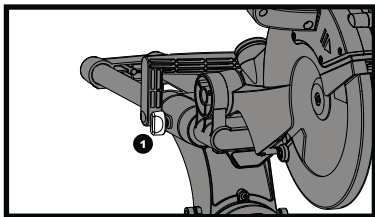

Fig 4
After removing the saw from the carton, loosen the slide carriage lock knob (1). When transporting or storing the mitre saw, the slide carriage should always be locked in position. The slide carriage lock knob (1) is located on the side of the slide carriage. (See fig. 4)